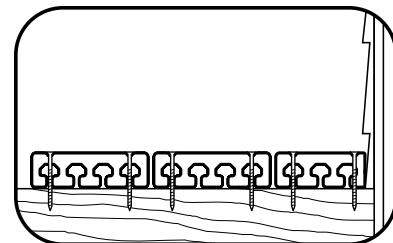

Fig. 12
- Rip last plank as needed to fit (Fig. 12).